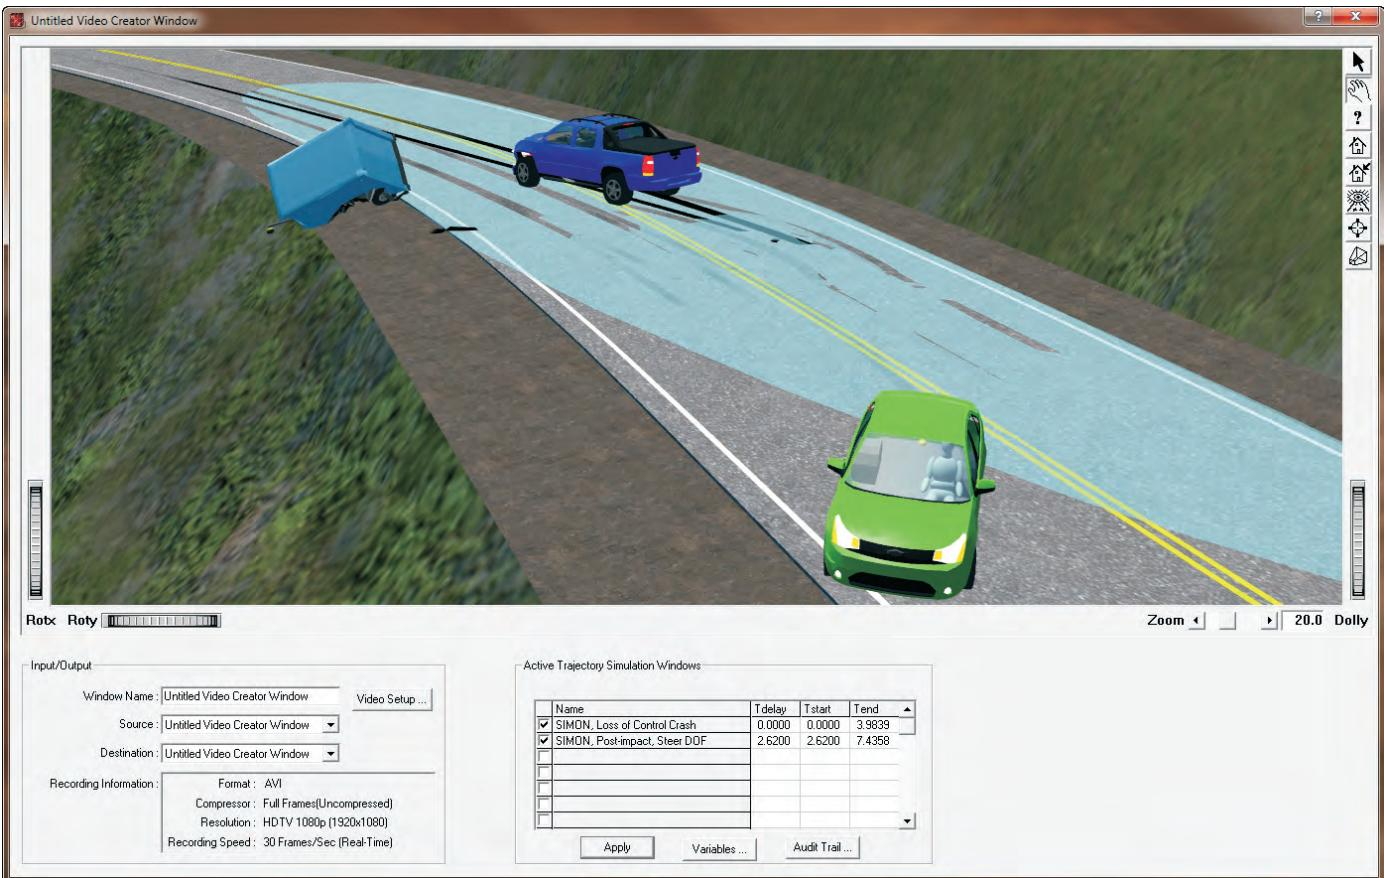

Figure 3 - Video Creator Window showing the sequence after trailer separation.
- Set the Time Delay for the second event to 2.62 seconds (see Figure 3).
It seems so simple, but the logic required to control the motion of each vehicle in a multi-vehicle sequence controlled by several different simulations is quite sophisticated. The *Audit Trail* is a table that documents which event controls each vehicle during the entire sequence displayed in the video creator. The *Audit Trail* is displayed by clicking a button in the Video Creator window (see Figures 3 and 4).